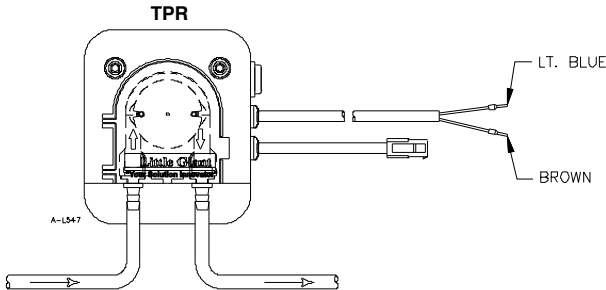

FIGURE 4
**TPR Series** (reservoir control tank) - Connect the brown wire to the main phase (line) and the blue wire to the neutral phase (common) (Figure 4). Make sure power is off when connecting the reservoir to the pump. Connect the cable from the reservoir tank to the pump by connecting the 4-prong plug to the corresponding cable on the pump.